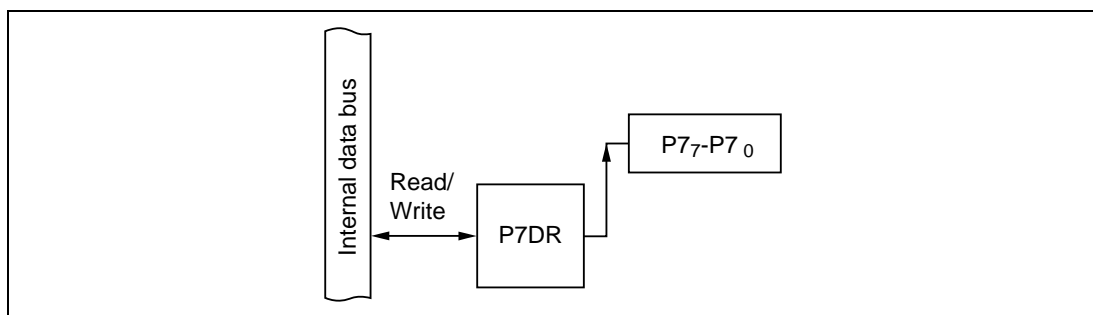

Figure 10-46 Output Port (Modes 1 to 7)
(2) Output Port (Modes 1 to 7): Figure 10-46 shows a block diagram illustrating the general-purpose output function. Table 10-36 indicates register read/write data. The value written in the port 7 data register (P7DR) is output at the pin. When read, P7DR returns the value written in P7DR.